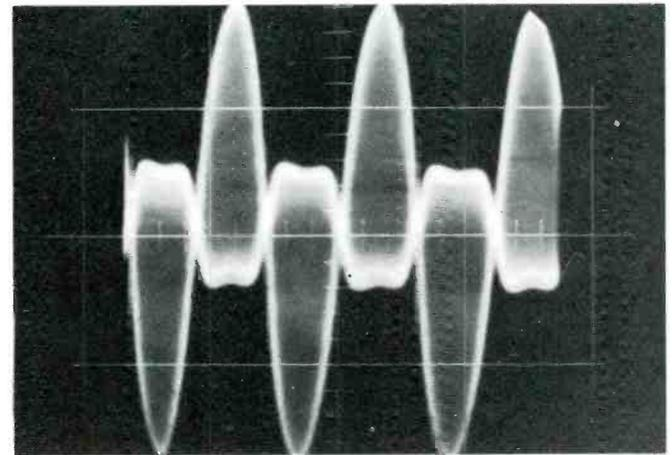

Fig. 6 Too much subcarrier contribution, compared to main channel signal, results in distorted composite signal shown here.
You can identify the polarity of a transistor with an ohmmeter, as shown in Fig. 6. If you connect the negative lead of the ohmmeter to the base, you should get a low-resistance reading to both collector and
Fig. 6 Identifying transistors with an ohmmeter. (A) PNP transistor reads low resistance to collector and emitter with negative lead of ohmmeter connected to base. (B) PNP transistor reads high resistance to collector and emitter with positive lead of ohmmeter connected to base. (C) NPN transistor reads low resistance to collector and emitter with positive lead of ohmmeter connected to base. (D) NPN transistor reads high resistance to collector and emitter with negative lead of ohmmeter connected to base.
The converse defect—low frequency response attenuated with respect to high frequency response—can cause an equally distorted composite waveform, such as that shown in Fig. 6. In this case, the "main channel" contribution is too great in amplitude with respect to the sub-channel sidebands, and the stereo FM generator should be re-aligned properly.
main section of the tuner. It probably will resemble Fig. 5 instead of Fig. 6, for reasons already mentioned. After compensation (usually at the output of the first amplifying or isolating stage of the typical decoder), the composite signal probably will look more like Fig. 6 because **over-compensation** often is applied to compensate for subsequent attenuation of high frequencies in the final stereo demodulator circuitry that follows.